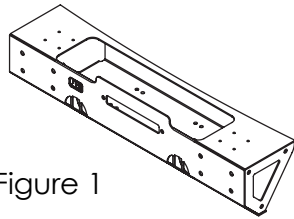

Figure 1
1. If installing as part of a new installation, place center section of bumper onto frame rails, but do not yet attach. If stinger is being added to an existing installation, remove existing Hoop and D-Rings from center section. Center section should be sitting on the frame rails, but not attached (Figure 1). Place Stinger over center section (Figure 2) and align 8 holes on top and 8 holes on front (Figure 3).